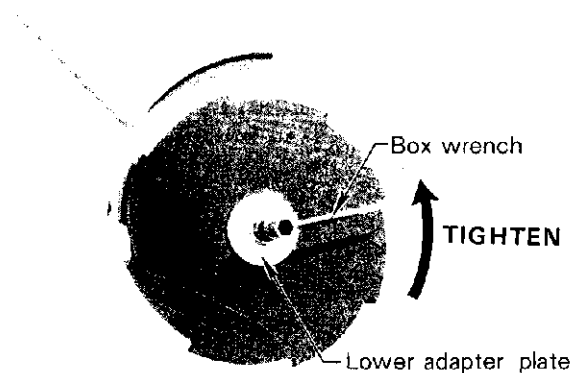

Fig. 14
5. Fit the lower adapter plate and tighten the locking nut using the box wrench supplied in the tool kit. See Fig. 14
1. The drive shaft is fitted with left hand threads, therefore turn counterclockwise to tighten as illustrated. See Fig. 14.